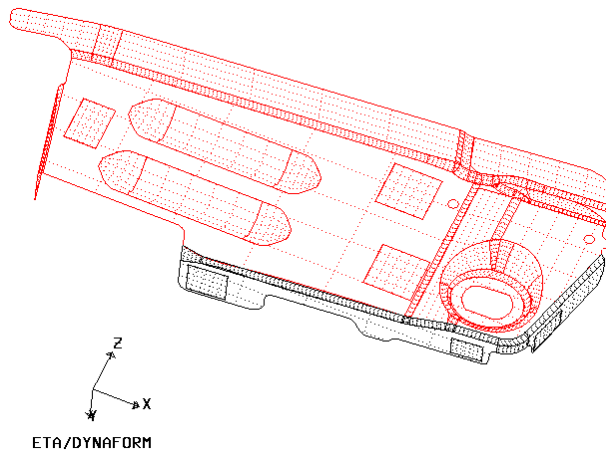

Figure 6.1.5 Select Flange Surface
- Once the function is selected, eta/DYNAFORM opens the SELECTED SURFACE dialog box to select flange surfaces to be unfolded. Refer to Figure 6.1.5 for typical surfaces with the defined flange highlighted.